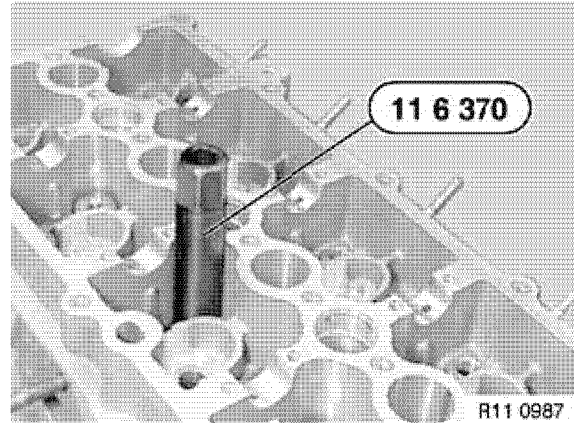

Figure 5-29
2. Press special tool OEM No. 11 6 370 onto valve stem seal and turn (Figure 5-29).